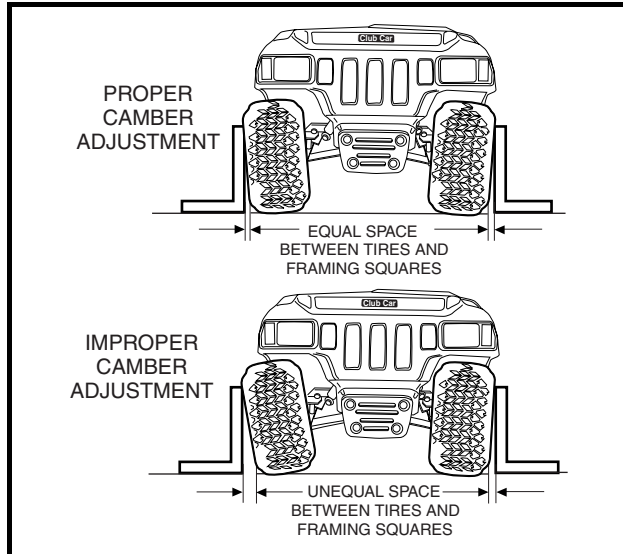
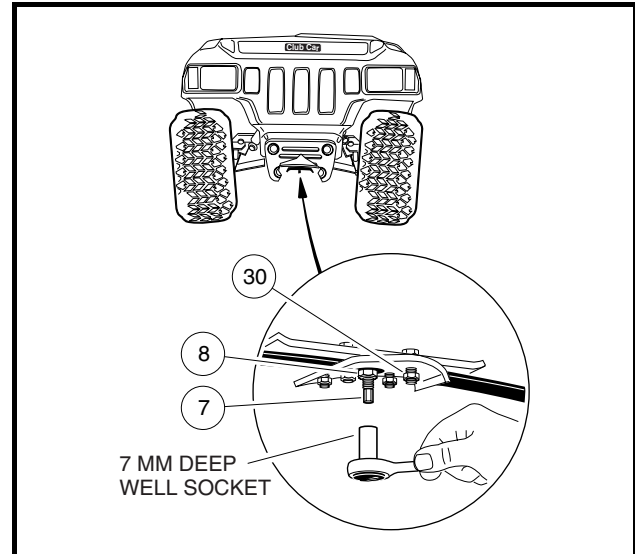
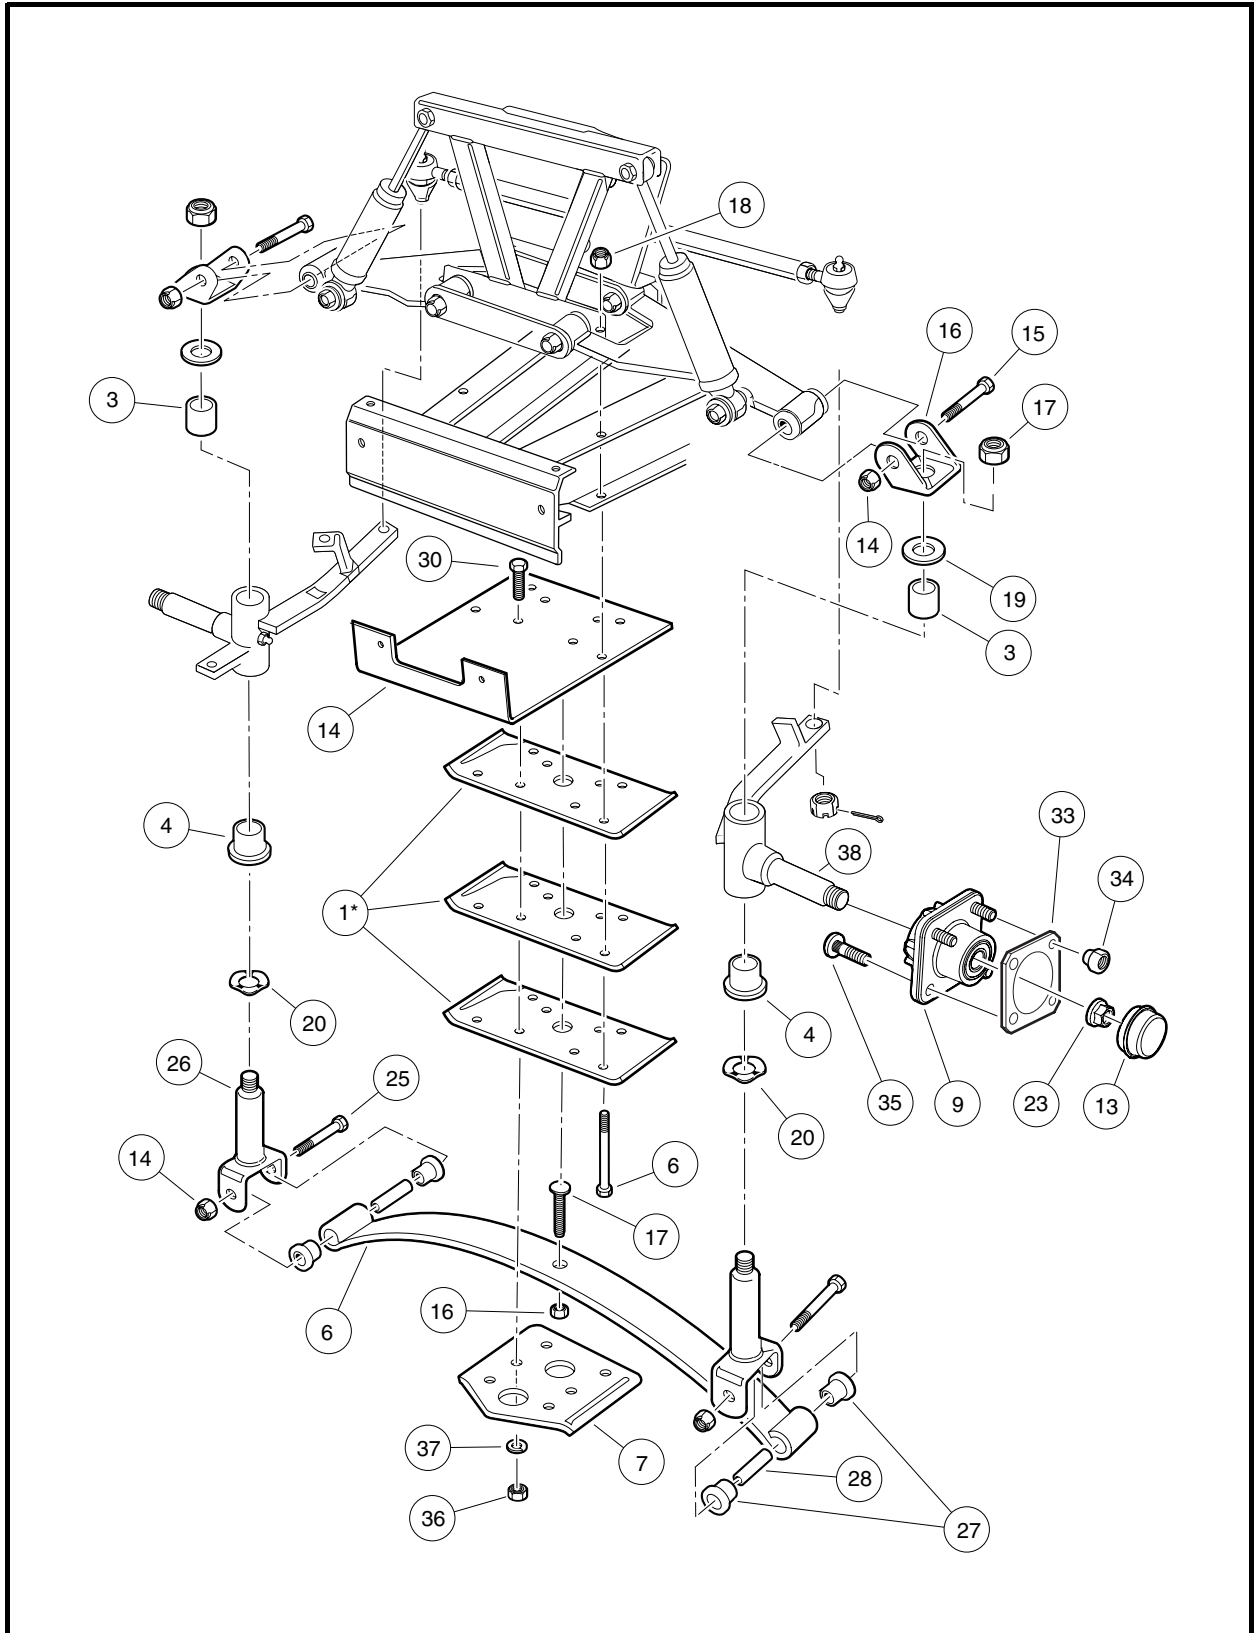

Figure 7-15 Check Camber
Figure 7-16 Adjust Camber
Figure 7-20 Lower Front Suspension Assembly
1. Check each front wheel with a framing square. From the floor (or ground), they should be perpendicular with a framing square (**Figure 7-15, Page 7-14**).
2. Loosen, but do not remove, the four bolts (30) that secure the leaf spring (6) to the bottom spring plate (29) (**Figure 7-20, Page 7-18**). **See also Figure 7-16, Page 7-14.**
3. Loosen, but do not remove, the hex nut (8) on the adjustment eccentric (7) (**Figure 7-16, Page 7-14**) in the center of the spring. **See also Figure 7-20, Page 7-18.**
4. Use a 7mm deep-well socket to rotate the eccentric (**Figure 7-16, Page 7-14**).
5. After adjusting camber, tighten the four spring retaining bolts (30) (**Figure 7-20, Page 7-18**) to 23 ft-lb (31 N·m). Then roll the vehicle forward one full tire revolution and recheck the camber. **See also Figure 7-15, Page 7-14.**
6. Tighten the hex nut (8) on the adjustment eccentric (7) to 10 ft-lb (13.5 N·m) (**Figure 7-20, Page 7-18**) **See also Figure 7-16, Page 7-14.**
3. Remove the nuts (14) and bolts (25) from the bottom of each kingpin (26) (**Figure 7-20, Page 7-18**).
4. Remove the four bolts (30), four nuts (36), four lock washers (37), and bottom spring plate (7).
5. Remove tapered leaf spring (6) and spacer plates (1).
6. Check the condition of the urethane bushings (27) and steel bushings (28). Replace any that are worn or damaged.
1. Install urethane bushings (27) and steel bushings (28) into leaf spring eyes (**Figure 7-20, Page 7-18**).
2. Install spacer plates (1), tapered leaf spring (6), bottom spring plate (7), four bolts (30), four lock washers (37), and four nuts (36). Using a crisscross pattern sequence, tighten bolts to 23 ft-lb (31 N·m).
3. Install spring in kingpins (26) with bolts (25) and nuts (14). Tighten to 17 ft-lb (23 N·m).
3. Remove the nut (17) and lock washer (if present) from the top of the kingpin (26) (**Figure 7-20, Page 7-18**).
4. Raise the upper clevis (16) from the kingpin (**Figure 7-20, Page 7-18**).
5. Remove the thrust washer (19).
6. Slide the spindle (38) off the kingpin (26).
7. Remove the wave washer (20) and inspect it. If the washer is broken or has a wave bottom to wave crest height dimension of less than 0.040 inch (0.10 cm), it must be replaced.
8. Remove bolt (25) and nut (14) from bottom of kingpin (26) and remove kingpin.
2. Install the kingpin (26) over the leaf spring eye. Insert the bolt (25) and install the nut (14) (**Figure 7-20, Page 7-18**). Tighten the bolt to 17 ft-lb (23 N·m).
3. Install the wave washer (20) on the kingpin.
4. Slide the spindle (38) with bushings (3 and 4) over the kingpin (26).
5. Install the thrust washer (19), upper plate clevis (16), and nut (17). If lock washer was present, do not reinstall. Tighten the nut to 40 ft-lb (54.2 N·m) (**Figure 7-20, Page 7-18**).